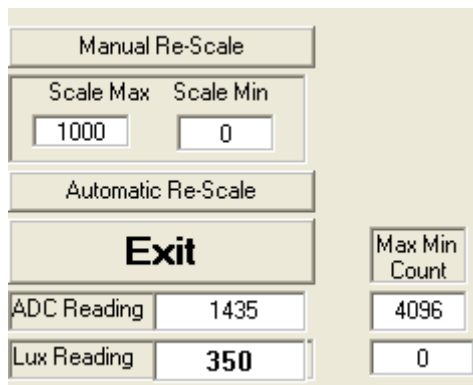

FIGURE 19.
- The value in the **“ADC Reading”** and/or **“Lux Reading”** fields are the appropriate output coming out of the sensor according to which Mode is engaged (Figure 19).